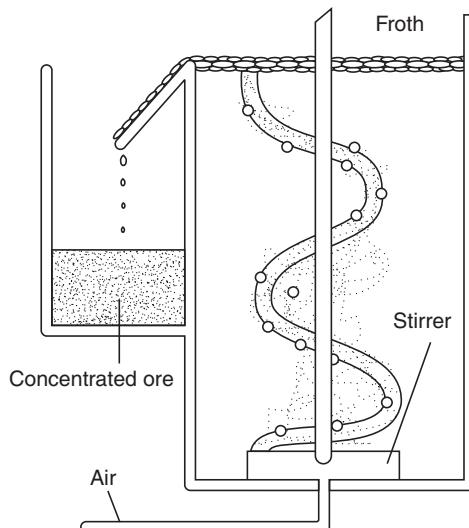

Fig. 14.4 Concentration of ore by oil floatation.
- (iii) *Oil floatation process*. Oils have just the opposite effect, they are attracted by sulphide ores. Oils form a film over the sulphide ore. The pulverised sulphide ore is taken in a tank and some pine oil and water are used. Generally some xanthates are used with pine oils. Air is made to bubble through a perforated pipe from the underneath of the tank. A foam is produced and floats along with the sulphide ore over the surface of water. But the sand and soil are settled down. The concentrated ore is collected from foam (Fig. 14.4).